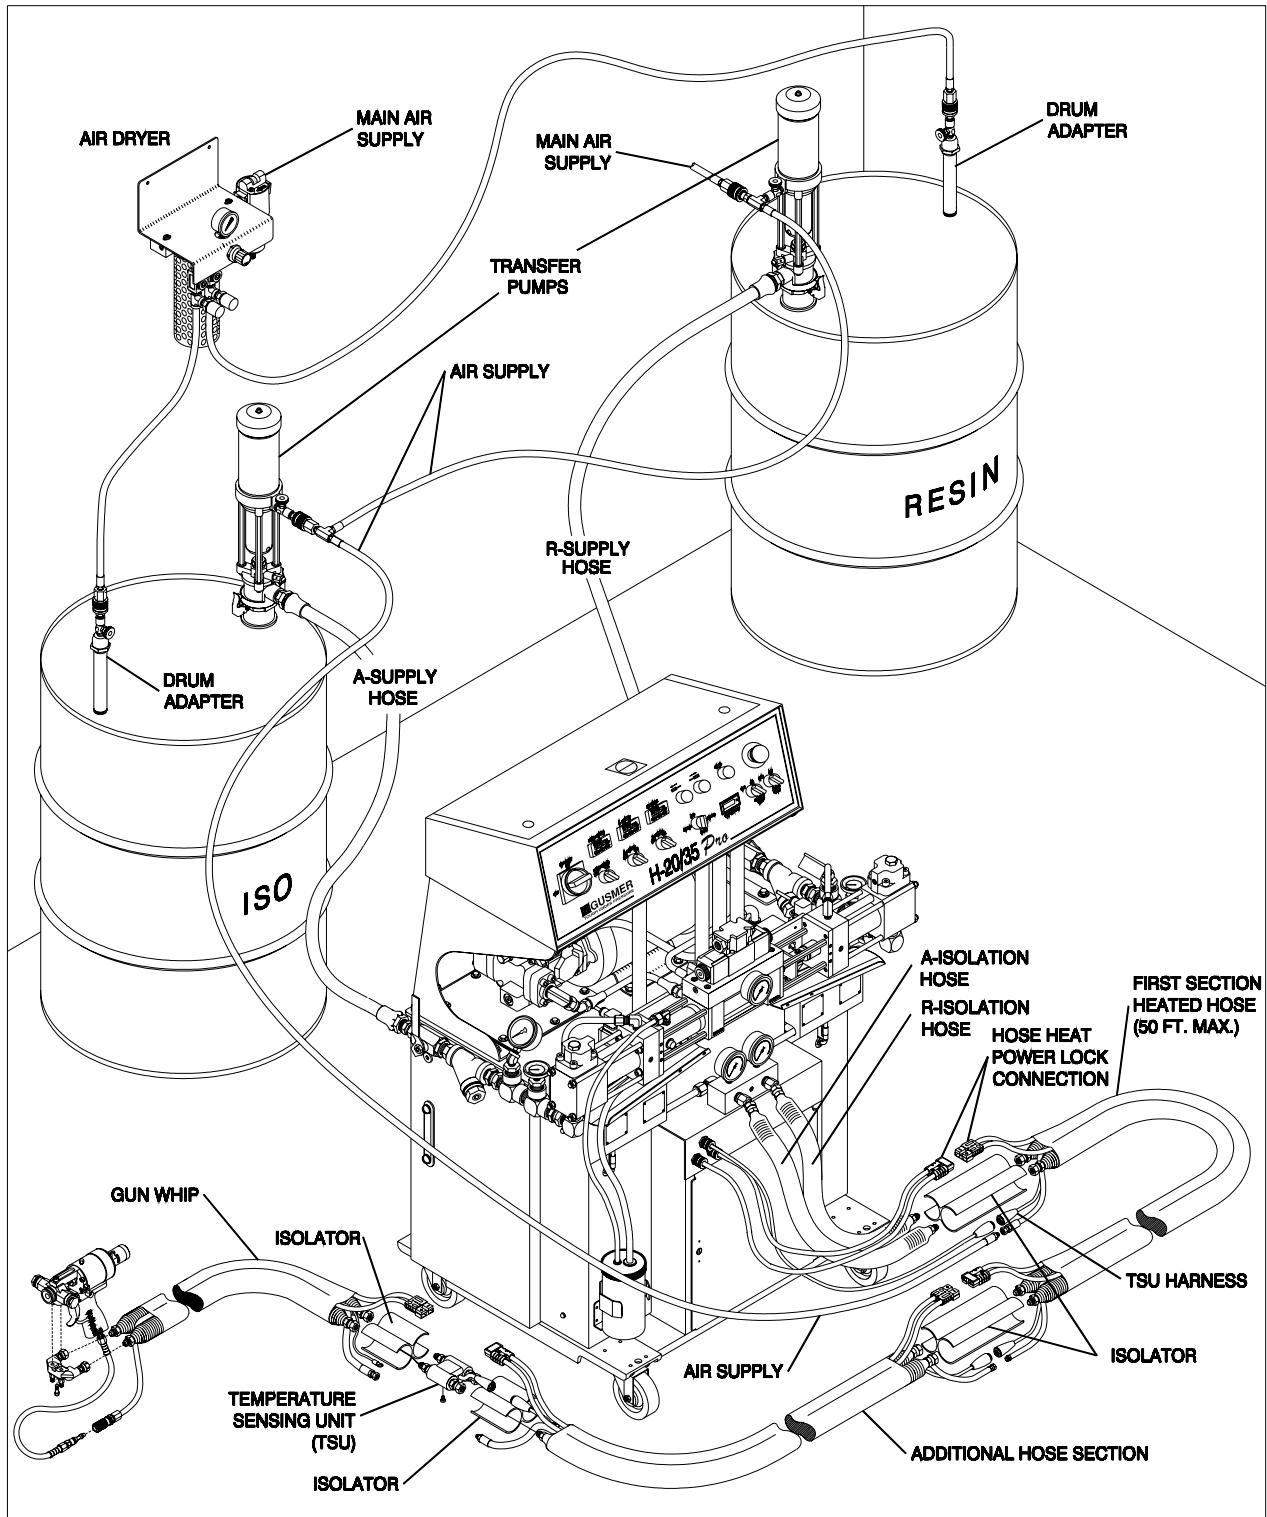

Figure 5. Typical Installation
* Refer to Figure 5 for additional parts required for set-up.